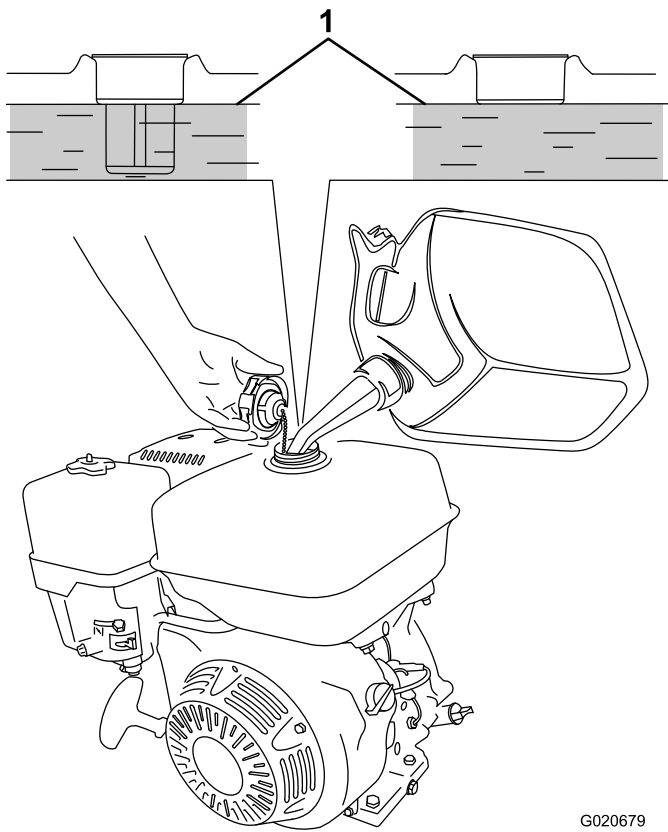

Figure 34
3. Add fuel to the fuel tank until the level is at the maximum fuel level (Figure 34).